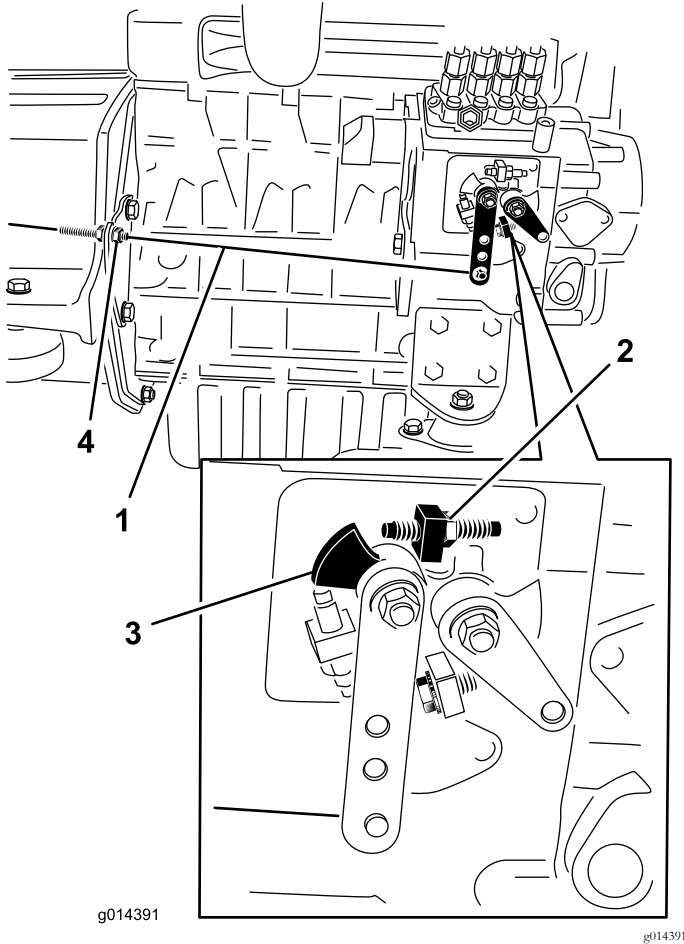

Figure 37
2. Check the position of the speed control lever on the fuel-injection pump. The speed-control lever should contact the high-speed screw when the throttle-control lever is in the FAST (detent) position (Figure 37).
3. If necessary, adjust the position of the jam nuts on the throttle-control cable until the speed-control lever contacts the high-speed screw when the throttle-control lever is in the FAST (detent) position (Figure 37).